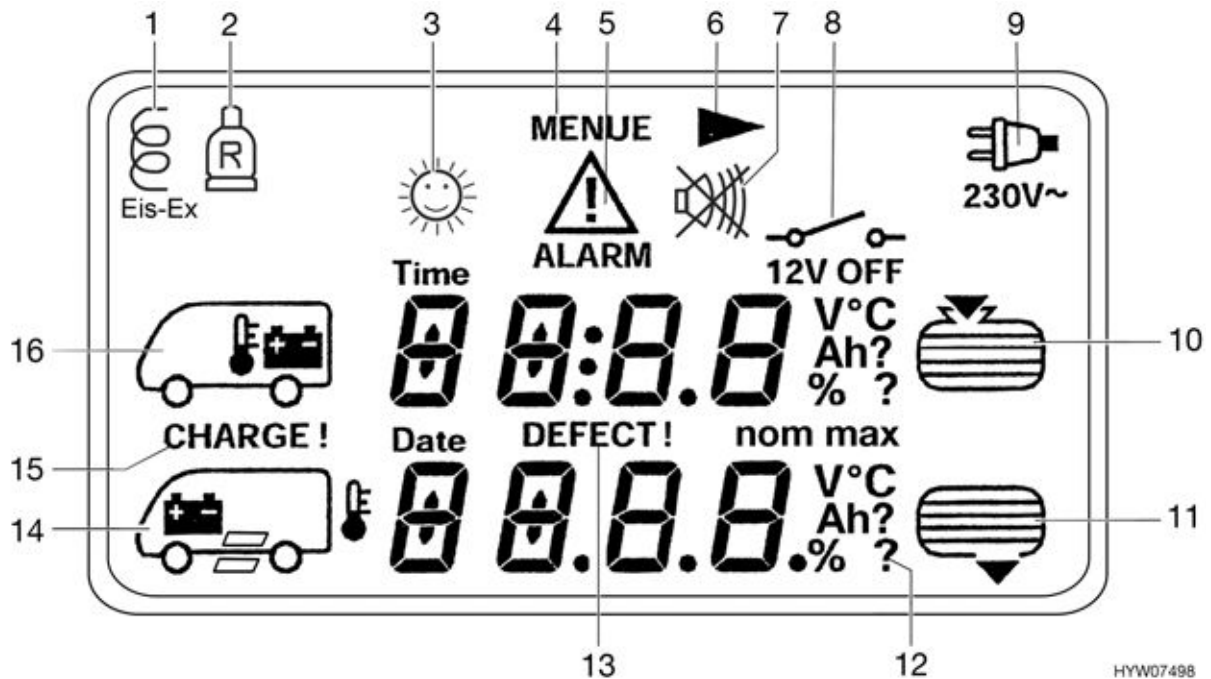

Fig. 123 Symbol diagram on the LCD display
- ▷ The arrow ► (Fig. 123,6) in the LCD display indicates that the selected menu consists of several pages.
The basic-menu appears and the symbols (Fig. 123,5, 15 and 16) flash as soon as the voltage of the living area battery falls below 12 V (measured under operation) and there is the threat of a total discharge. Additionally, the voltage indicator flashes in the battery menu.